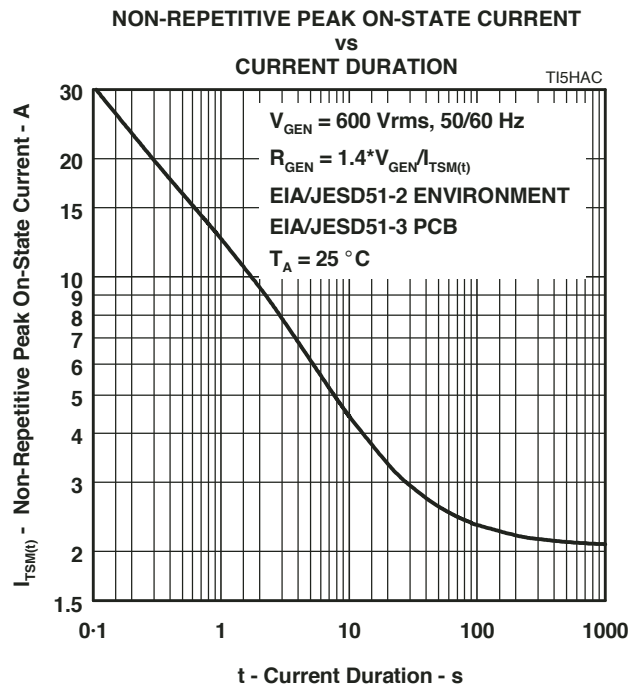

Figure 8.
5. EIA/JESD51-2 environment and EIA/JESD51-3 PCB with standard footprint dimensions connected with 5 A rated printed wiring track widths. Derate current values at $-0.61\text{ }^{\circ}\text{C}$ for ambient temperatures above $25\text{ }^{\circ}\text{C}$. See Figure 8 for current ratings at other durations.
The protector can withstand currents applied for times not exceeding those shown in Figure 8. Currents that exceed these times must be terminated or reduced to avoid protector failure. Fuses, PTC (Positive Temperature Coefficient) resistors and fusible resistors are overcurrent protection devices which can be used to reduce the current flow. Protective fuses may range from a few hundred milliamperes to one ampere. In some cases it may be necessary to add some extra series resistance to prevent the fuse opening during impulse testing. The current versus time characteristic of the overcurrent protector must be below the line shown in Figure 8. In some cases there may be a further time limit imposed by the test standard (e.g. UL 1459 wiring simulator failure).